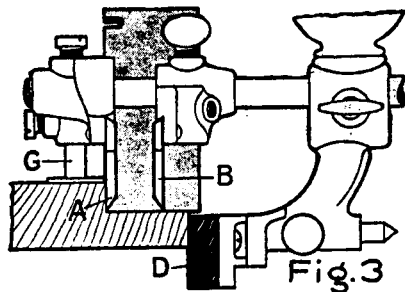

Fig. 3
Fig. 3—RABBET AND FILLETSTER—Attach Fence (D), putting Arms through upper holes. The Fence regulates the width of the cut and if required, slides under the cutter. The Sliding Section (B) also slides under the cutter, forming a support on the outer edge of the rabbet. Gauge (G) regulates the depth of the cut.